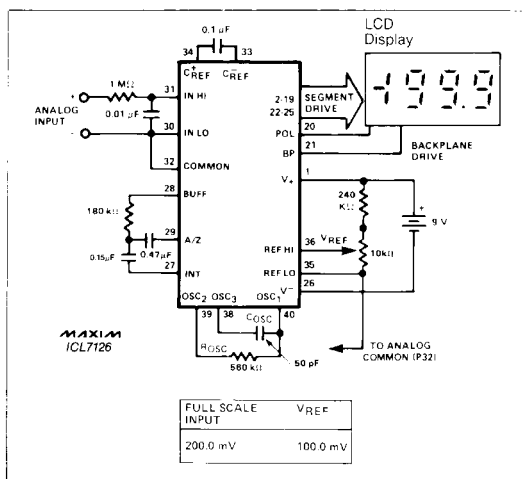

Figure 1. Maxim ICL7126 Typical Operating Circuit
**Note 3:** Unless otherwise noted, specifications apply at TA = 25°C, fCLOCK = 16kHz and are tested in the circuit of Figure 1.
(V+ = 9V; TA = 25°C; fCLOCK = 16kHz; test circuit - Figure 1; unless noted)
**Note 8:** Test condition is VIN applied between pins IN-HI and IN-LO through a 1MΩ series resistor as shown in Figure 1.
**Note 12:** 1MΩ resistor is removed from circuits in Figure 1.